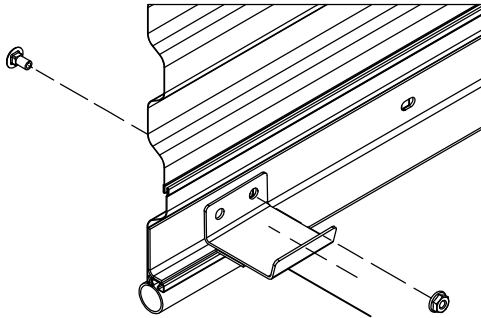

FIGURE 18:
- ▶ Install handle(s) on outside of bottom bar using $\frac{1}{4}$ - 20 x $\frac{5}{8}$ " carriage bolts and nuts. **See figure 18.**